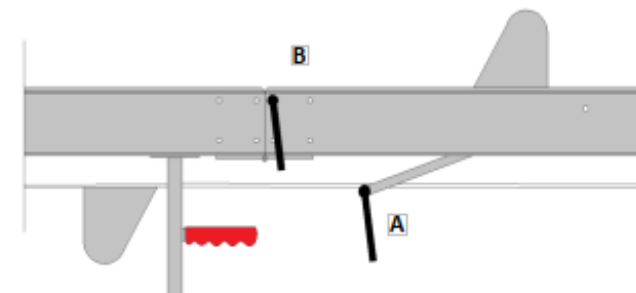

Fig. 4.
6. The head of the machine is now ready to be raised on to the roof/ scaffold by block and tackle or rope. Ensure lifting device is secure and safe. The base is guided and positioned by man 1. (fig. 4)